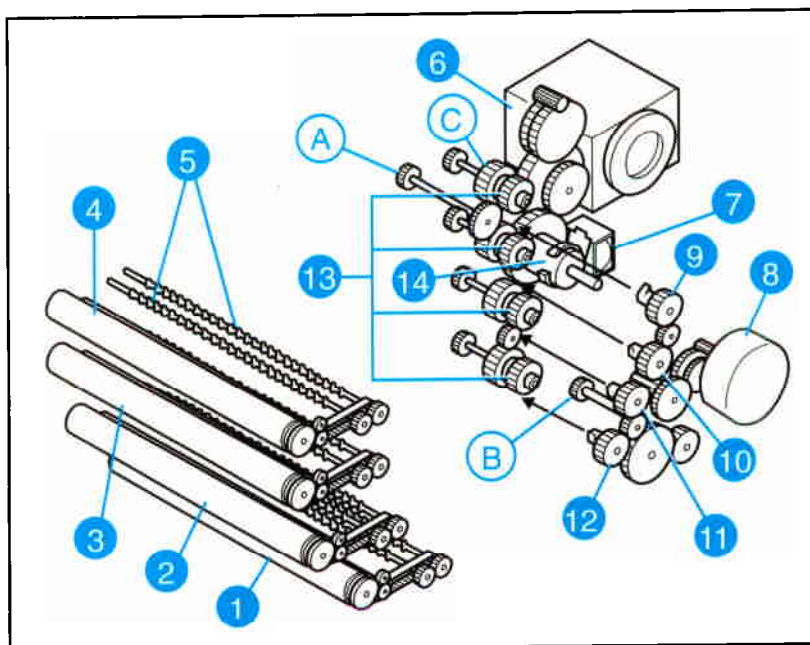

Figure 5-47 M2 and M3 in the Developer Drive Assembly
The Developer Drive assembly contains two motors, the Developer Drive Motor, and the Developer Select Motor. The discussion of the Developer Drive assembly is separated into two parts, a drive section, and a selection and timing section, each section has its own motor as shown in Figure 5-47.
| 5 Black Toner Hopper Paddles   | A See Figure 5-47.                |
| 6 Cyan Toner Hopper Paddles    | B See Figure 5-47.                |
- C Upper Gear Train Drive Gear (see Figure 5-47)